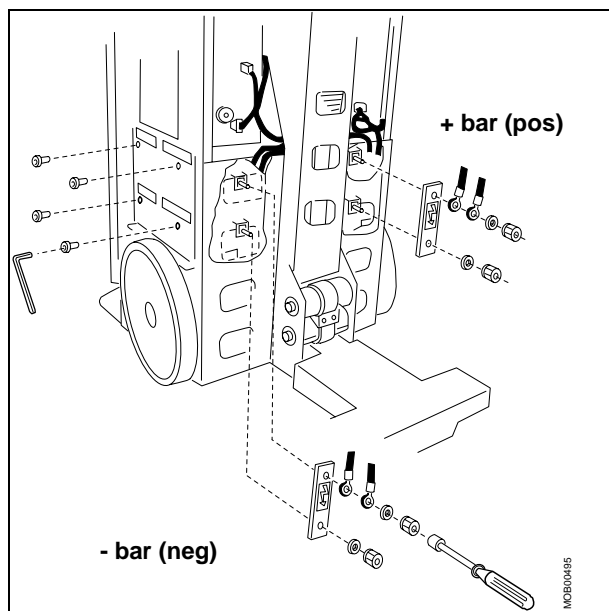
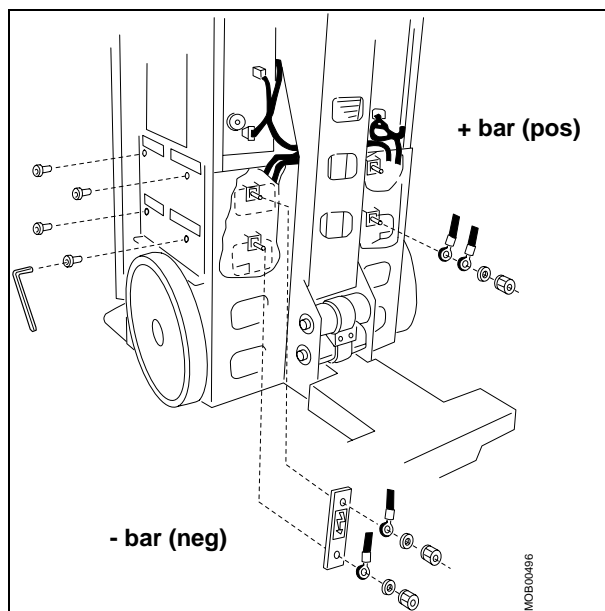

Fig. 5 MOBILETT Plus
Fig. 6 MOBILETT Plus E
- Remove the main bars (Fig. 5 for MOBILETT Plus and Fig. 6 for MOBILETT Plus E).